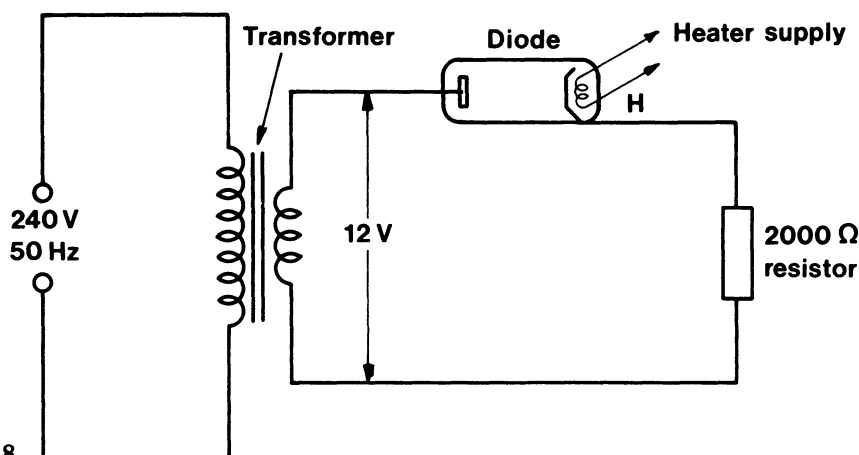
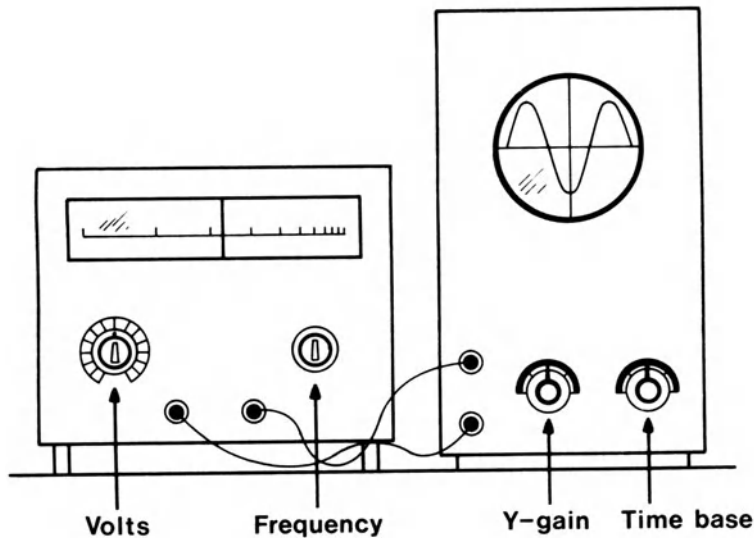

FIG. 3.38
FIG. 3.40
29. A student designs a circuit to convert an alternating voltage to a lower direct voltage. His circuit is shown in Fig. 3.38.
- (c) Explain the part played by the diode in the circuit (Fig. 3.38). (5)
- (d) Sketch a graph of the voltage across the resistor plotted against time. (3)
- (e) The student could use an oscilloscope to find the maximum current in the diode circuit. (5)
- (i) Where would he connect the oscilloscope in the circuit? (2)
- (ii) What reading would he take and how would he calculate the current from the reading? (5)
- (f) Explain what effect reducing the current through the heater H would have on the maximum current in the diode circuit. (3)
30. Fig. 3.40 shows a signal generator being used to apply an alternating voltage to the Y-plates of an oscilloscope.